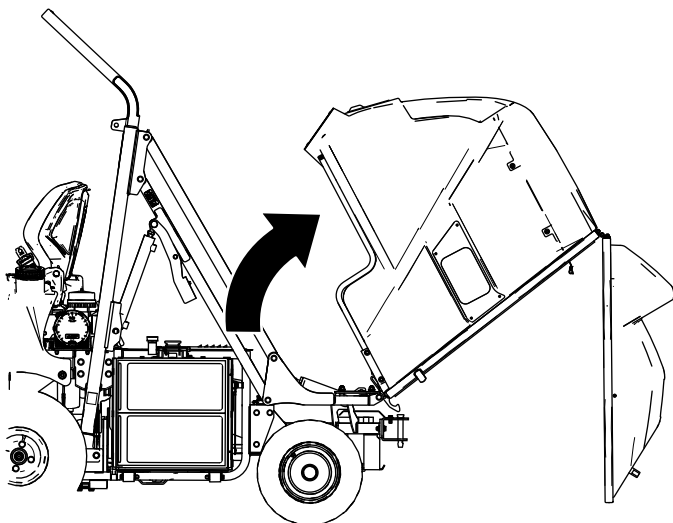

Figure 50
2. Pivot the hopper up and back (Figure 50) by hand.